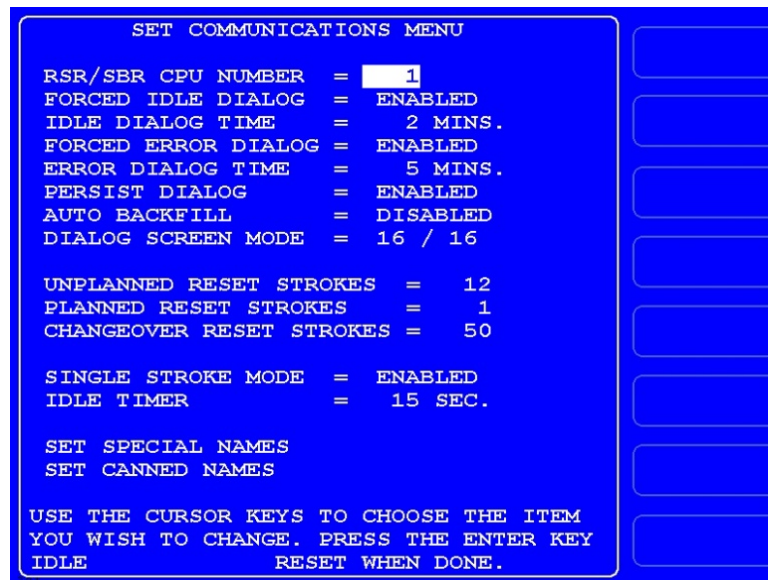

Figure 1 - Set Communications Menu
2. Highlight the "SETUP DATA COMMS" menu item, using the Up or Down cursor key, and press ENTER. The Set Communications Menu (see Figure 1) displays.